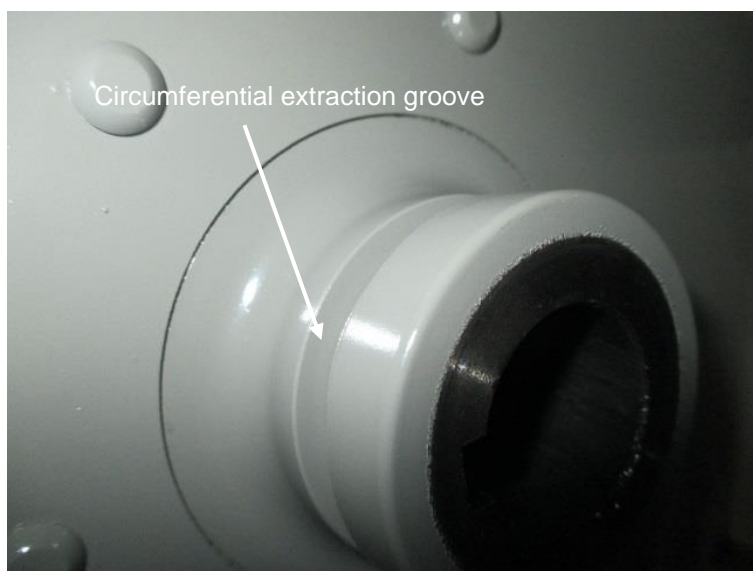
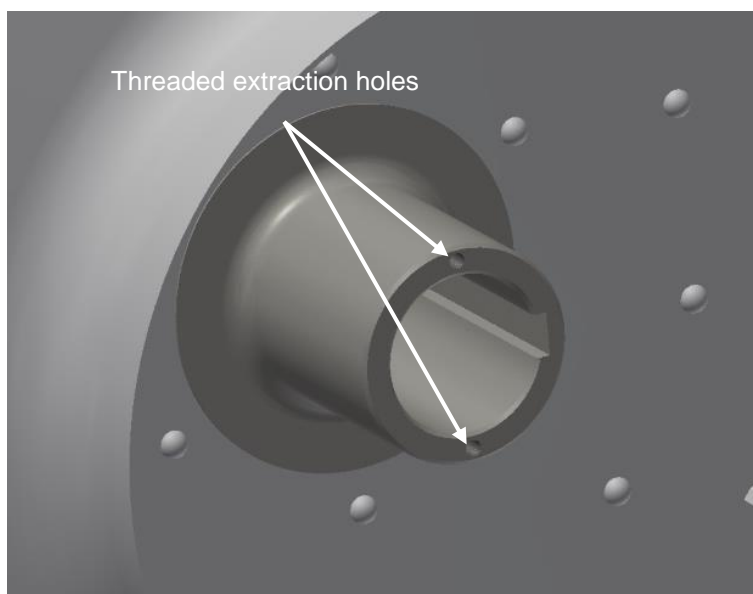

Fig. 10-4 Hub with circumferential extraction groove
Fig. 10-5 Hub with threaded extraction holes
CAUTION! The impeller hub may have a circumferential extraction groove (Fig. 10-4) or threaded extraction holes (Fig. 10-5).
6.- Secure free end A of the lifting tube (see Fig. 10-4).